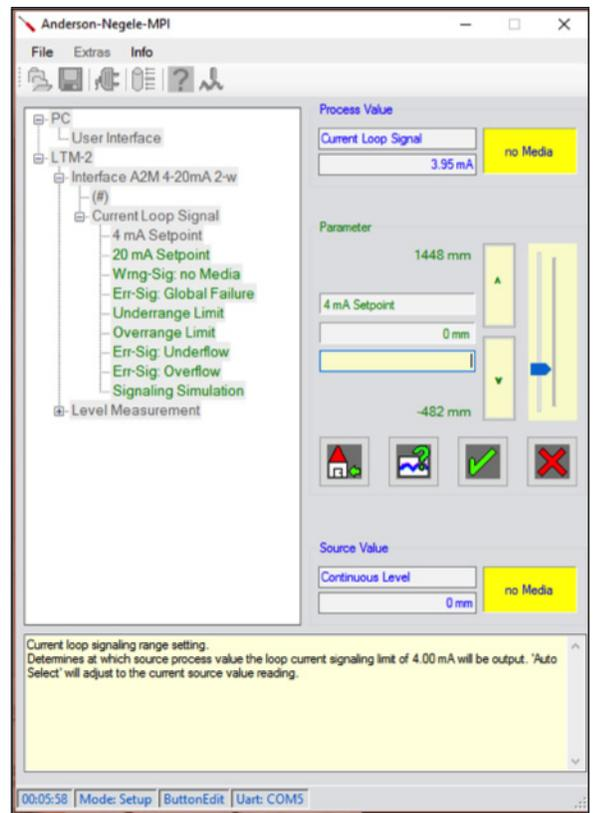

Figure 18: Changing parameter settings
8. Opening the ‘Current Loop Signal’ tree will expand the menu into several submenu parameters that are the core probe operation settings. See **Figure 18**. Description of each parameter is provided below. Adjusting and changing these setpoints from the factory settings is explained in 10) below.